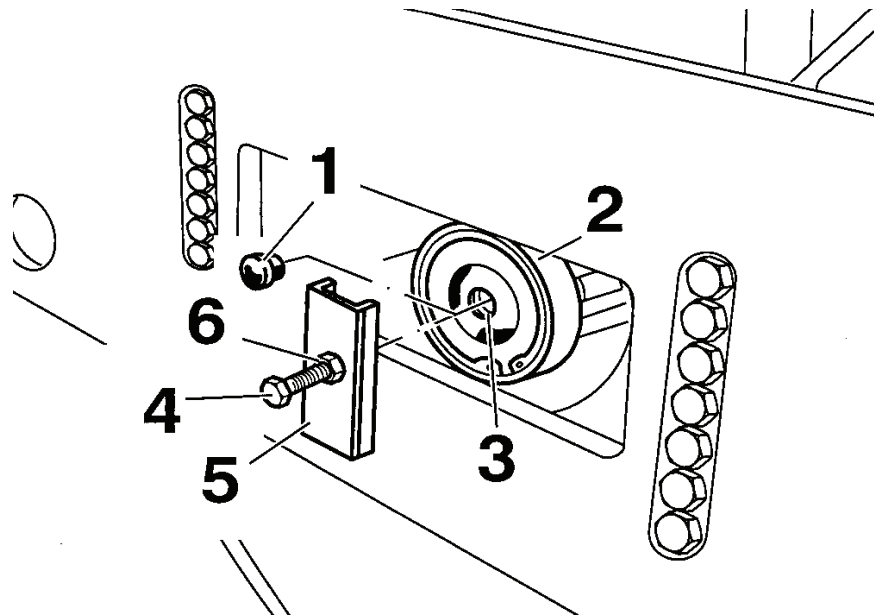

Fig. 17: Manual releasing of the brake in the Poclain motor
- Remove the plug 1 (Fig. 17).
- Lay the U-bar (5) across the brake housing (2) and turn the screw (4) into the tapped bore (3) until it bottoms.
- Turn the nut (6) down and tighten it for approx. one turn. The drum must turn freely.